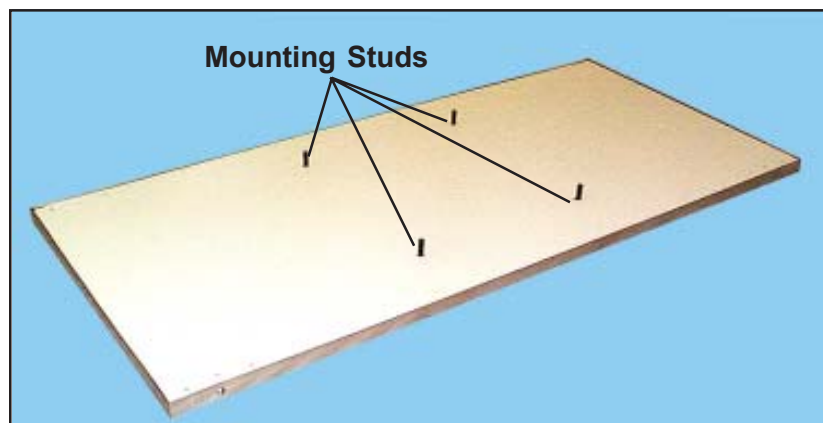

Figure 63. Underside of Exam Top Showing Studs
1. With a 1/2-in. wrench, remove the four nuts and washers from the mounting studs under the table top (Figure 63).
1. Place the table top on the unit so that the mounting studs under the top enter the matching holes on the unit frame (Figures 63, 64, and 65).